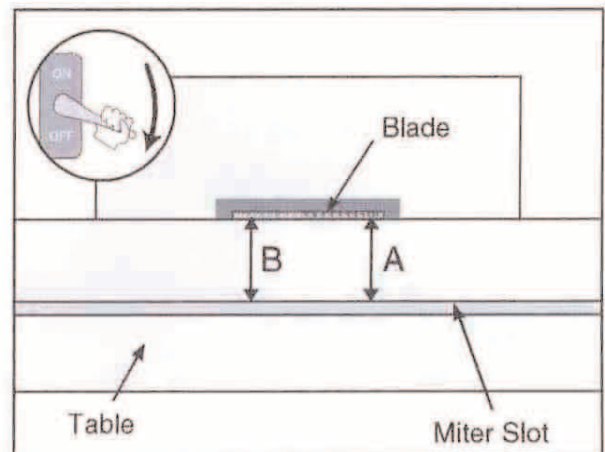

Figure 85. Measuring gap between the table and the blade.
4. Using an adjustable square or a dial indicator, measure the distance (A) between the miter slot and the front of the blade as shown in Figure 85.
5. Rotate the blade  $180^\circ$  and slide the table with the measuring device to position (B) in Figure 85.